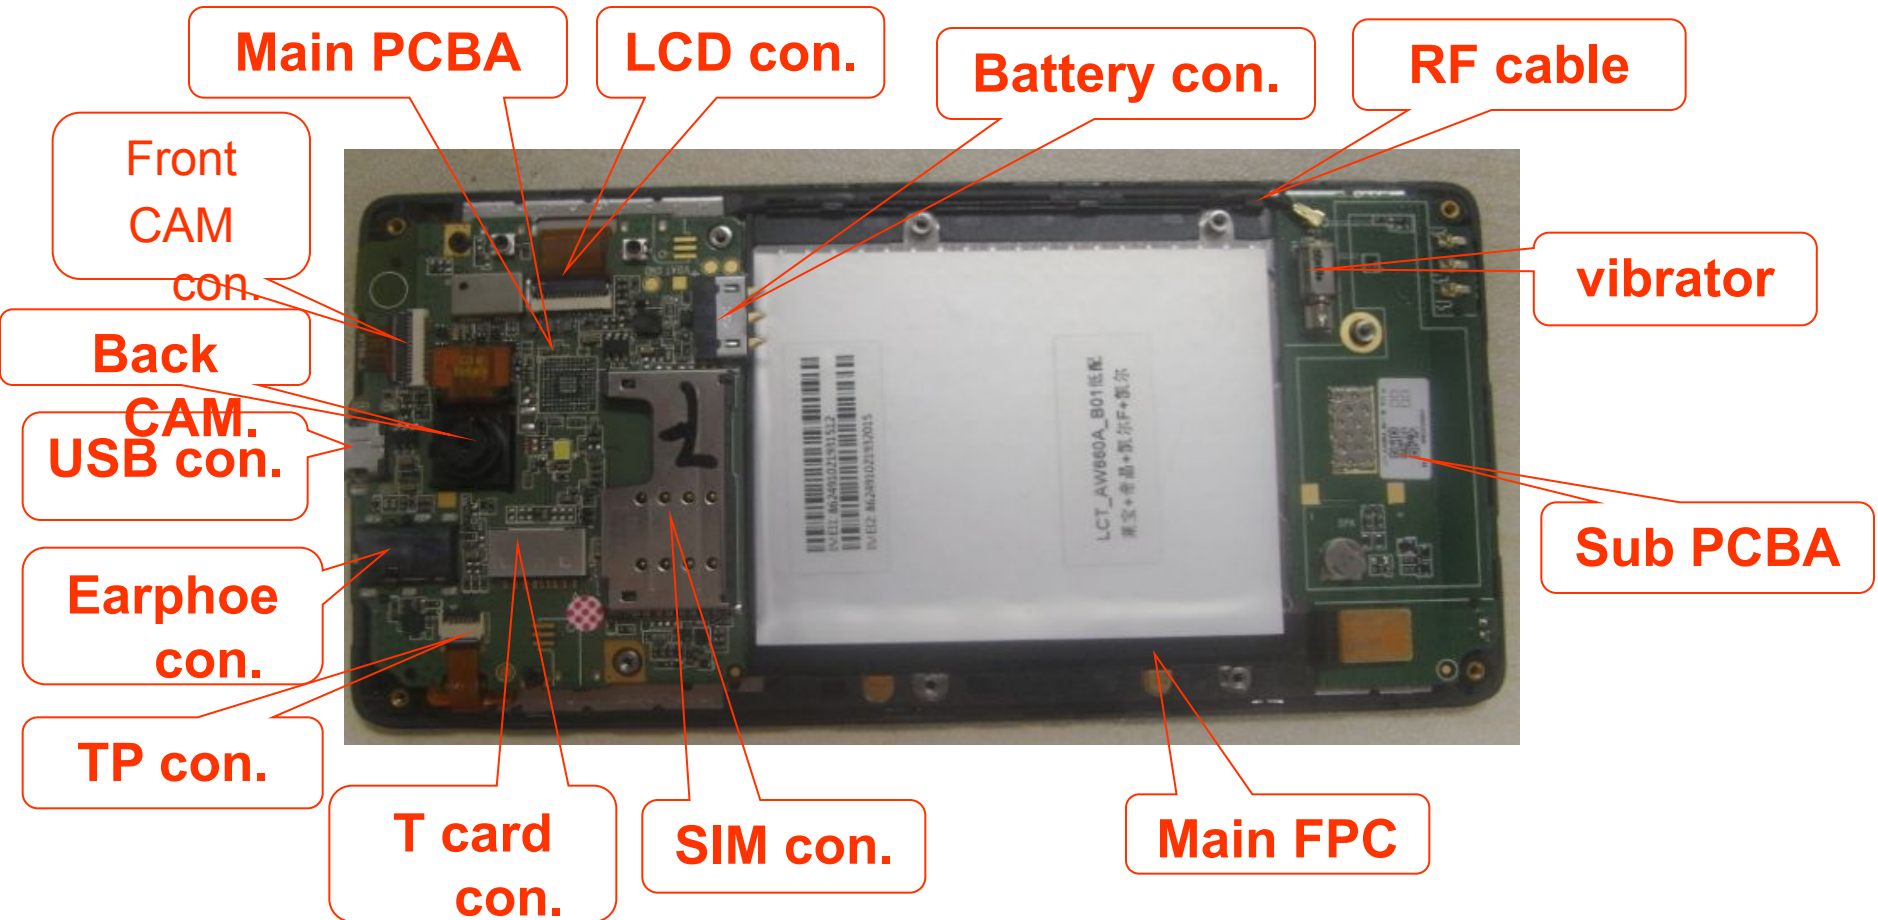

Fig.4
1) The main components of distribution, as the fig.4 ;